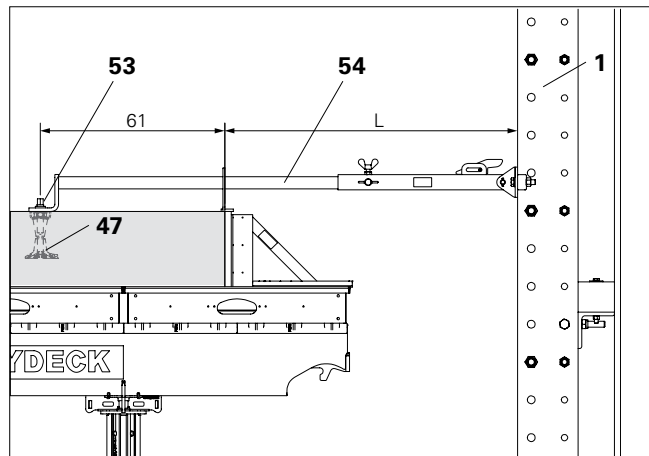

Fig. D1.01
4. Tighten wing screws (54.1). (Fig. D1.01 + D1.02)